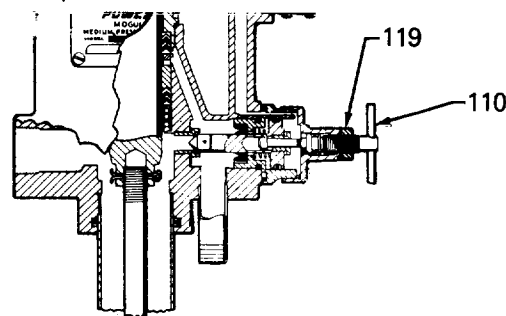

Fig 2
To circulate fluid, open the Relax-A-Valve by loosening the locknut (119) and turning the T-handle screw (110) *counterclockwise* as far as possible. Start the pump and circulate the fluid as necessary. Stop the pump and close the Relax-A-Valve or set it in the automatic position. See Fig 2.